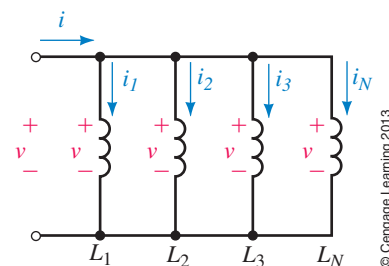

FIGURE 13-41
30. For inductors in parallel (Figure 13-41), the same voltage appears across each. Thus, $v = L_1 di_1/dt$, $v = L_2 di_2/dt$, and so on. Apply KCL and show that $1/L_T = 1/L_1 + 1/L_2 + \dots + 1/L_N$.